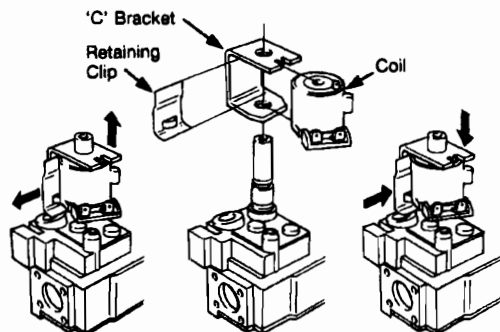

Fig. 36
8.12.18 Solenoid (fig 36)
8.12.21 Pull off the 'C' bracket and coil assembly, see fig 36